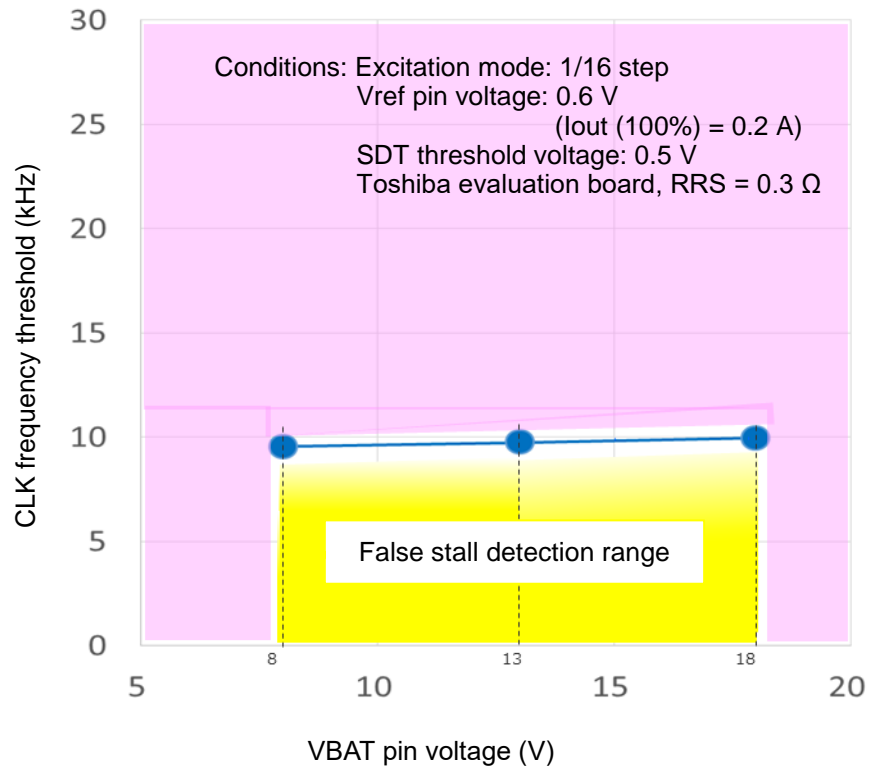

Figure 11. VBAT pin voltage vs. CLK frequency threshold (for reference)
- As shown in Figure 11, the result is as follows: